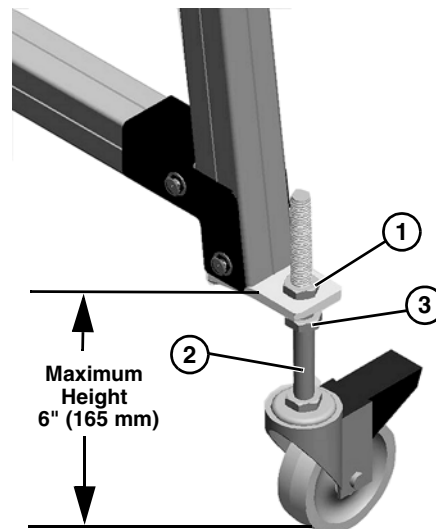

Figure 15
1. Loosen the upper nut (**Figure 15, item 1**) on the caster stem (**Figure 15, item 2**).
2. Rotate the lower nut up or down (**Figure 15, item 3**) to raise or lower the stand to the desired height.
5. Tighten the upper nut (**Figure 15, item 1**) on the caster stem (**Figure 15, item 2**) to secure each foot assembly.